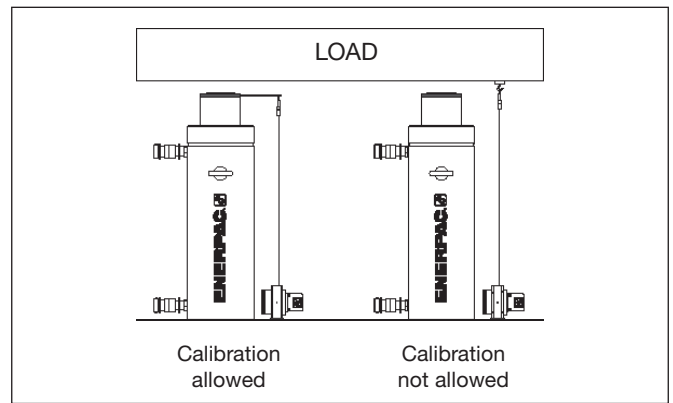

Figure 18: Calibration conditions
2. Cylinder calibration selection: The user must set if the calibration is going to be carried out or not, depending on the type of cylinder used. Refer to Figure 18 for details.